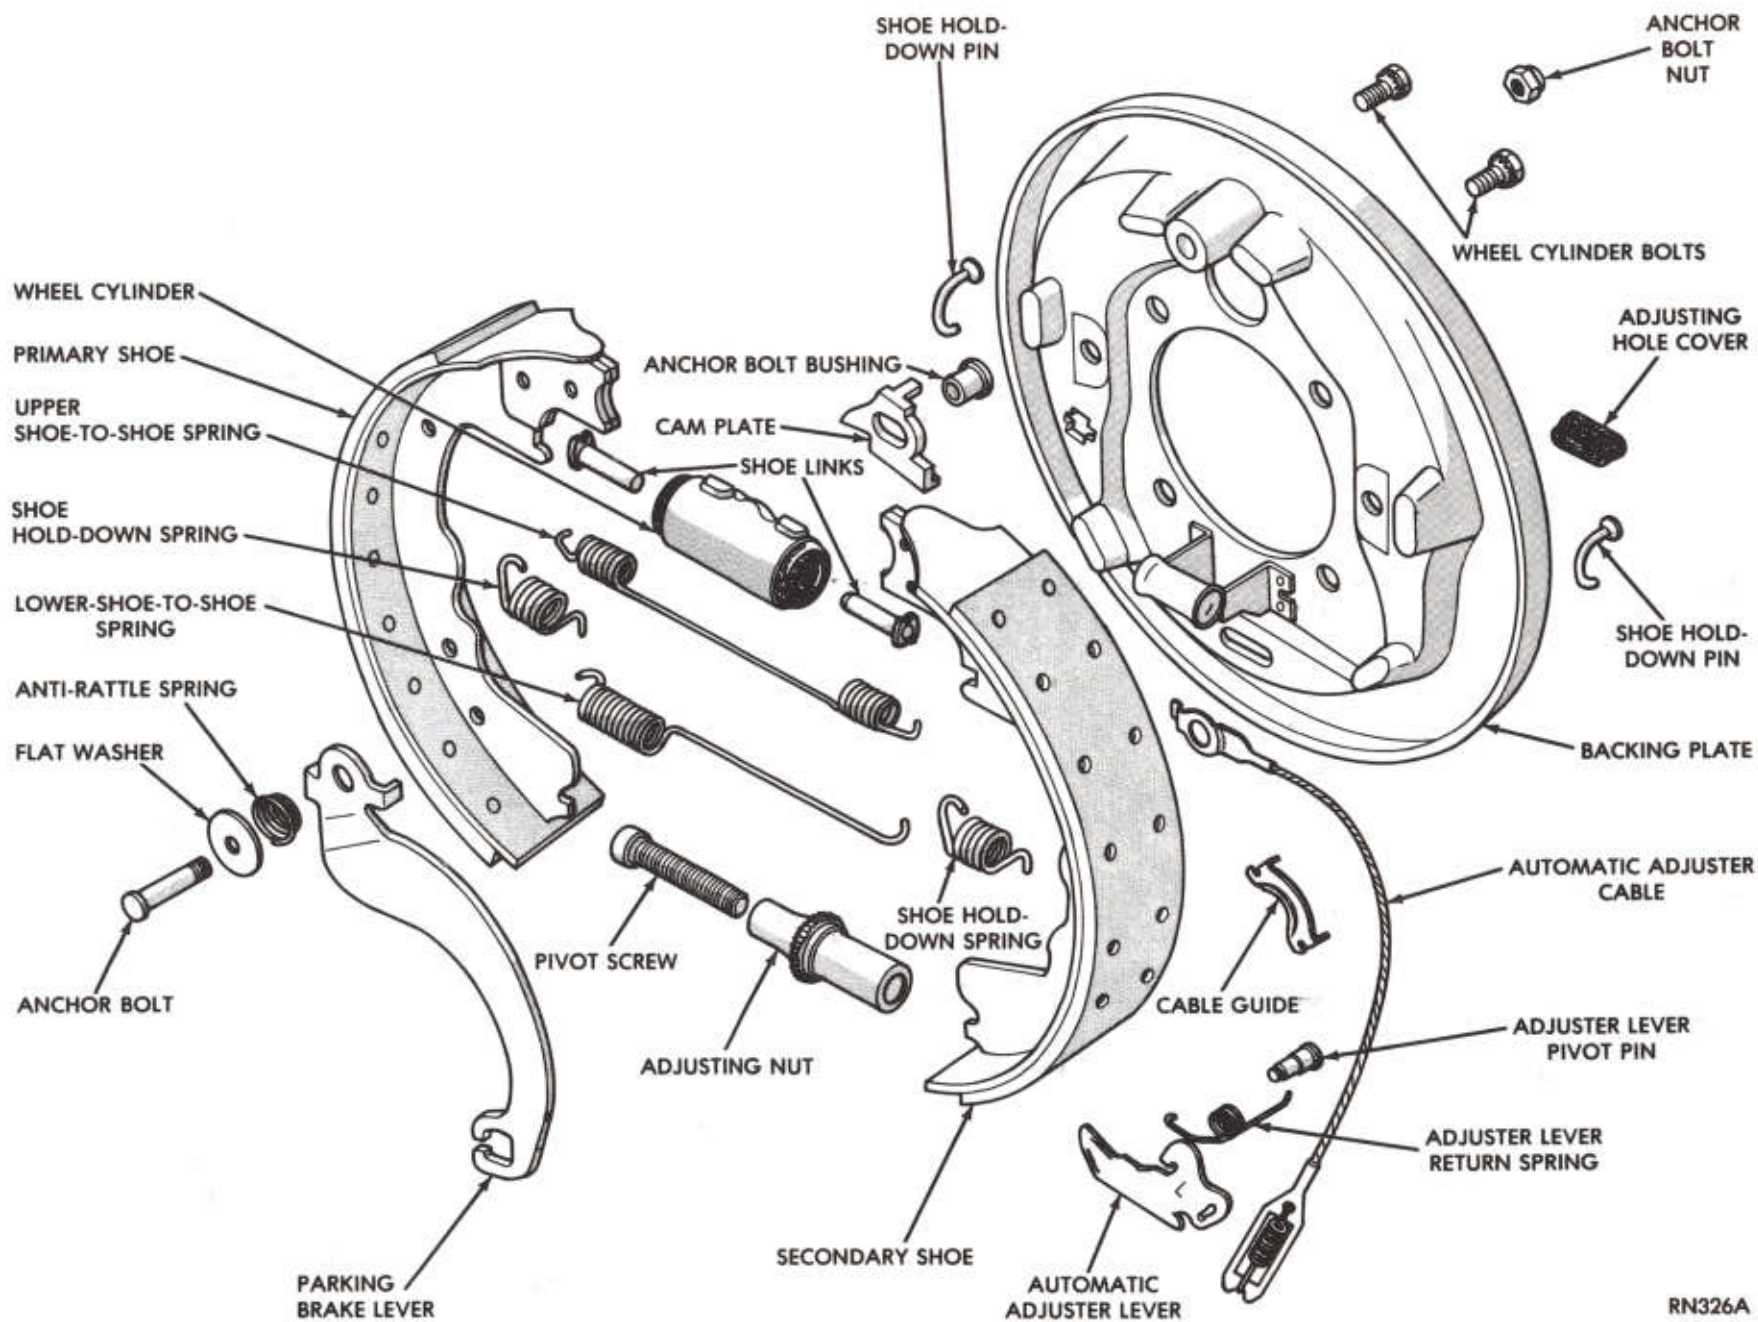

Fig. 1—Rear Brake Assembly
(1) Unhook adjusting lever return spring from the lever (Fig. 1). Remove lever and return spring from lever pivot pin. Unhook adjuster lever from adjuster